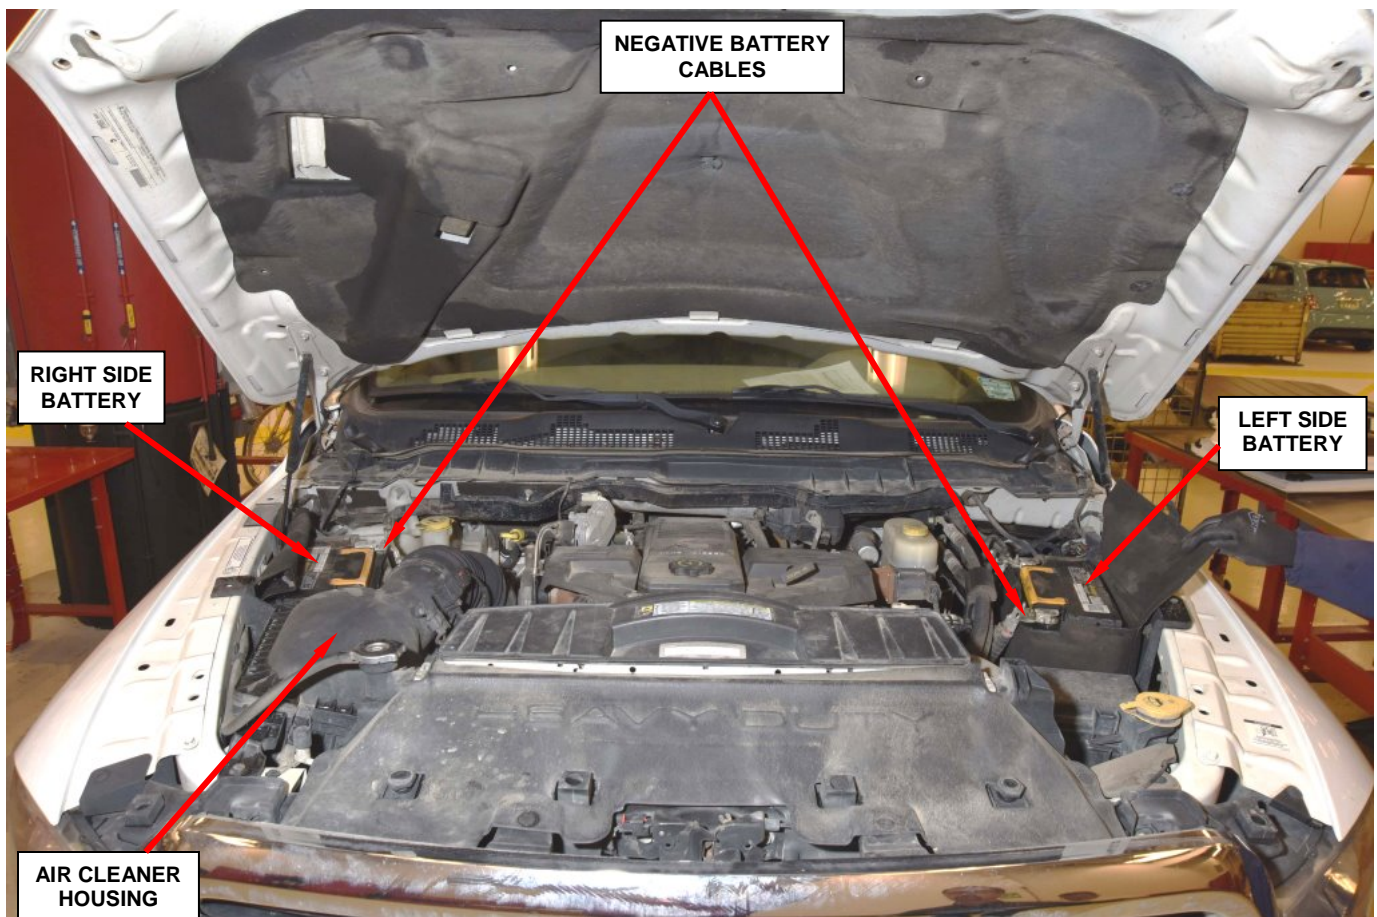

Figure 2 – Negative Battery Cables
- a. Disconnect both negative battery cables (Figure 2).